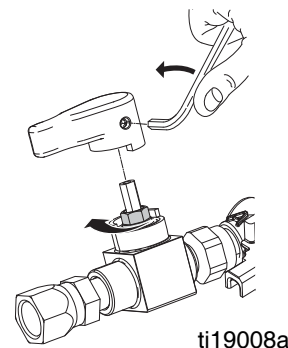

FIG. 10 Material Valve Packing Nut
3. Loosen the set screw and remove handle. See FIG. 10.